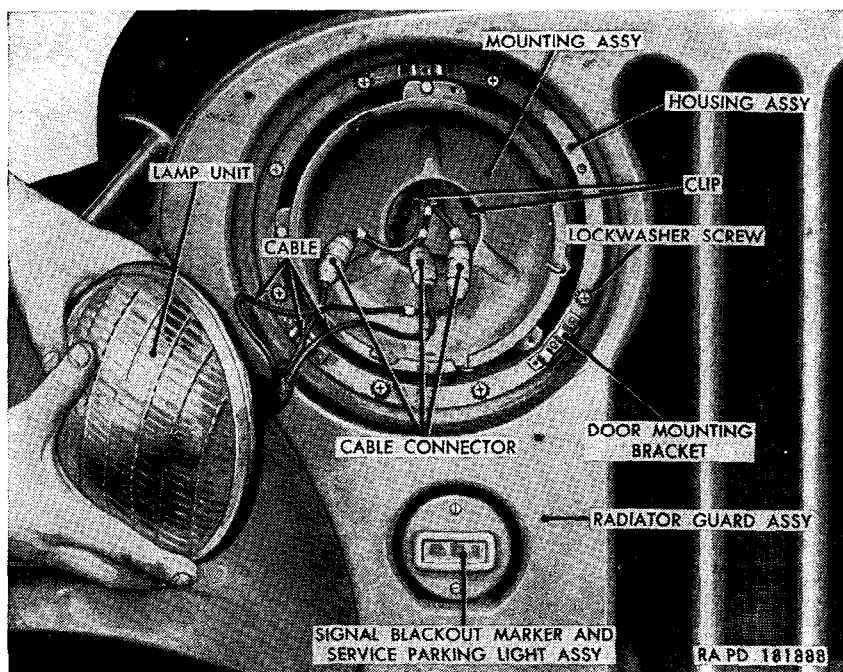
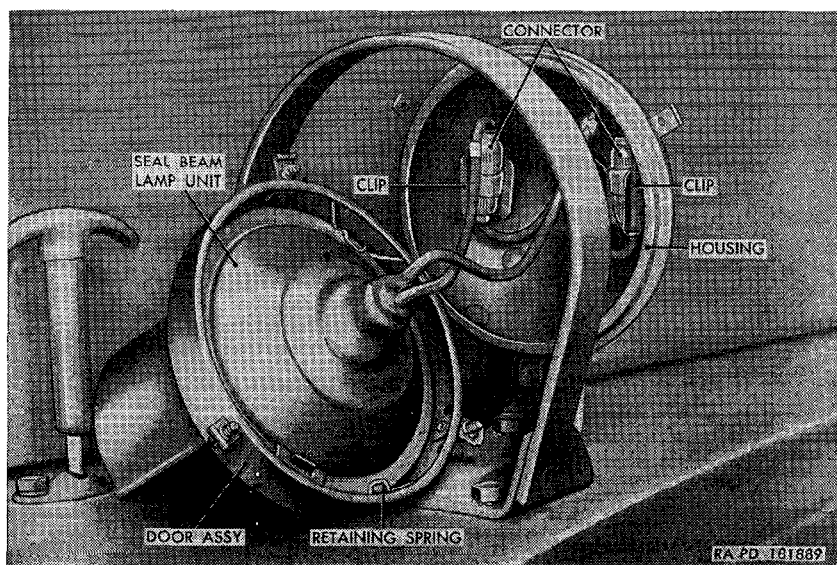
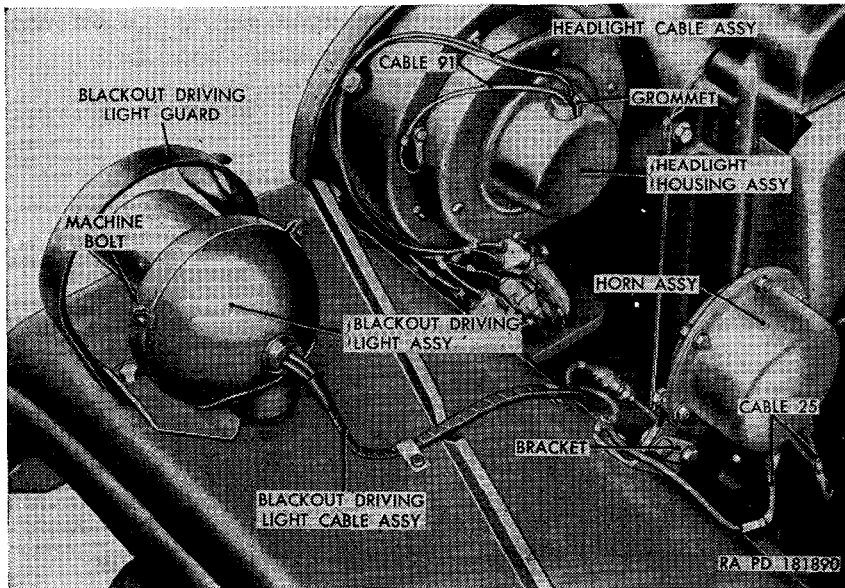
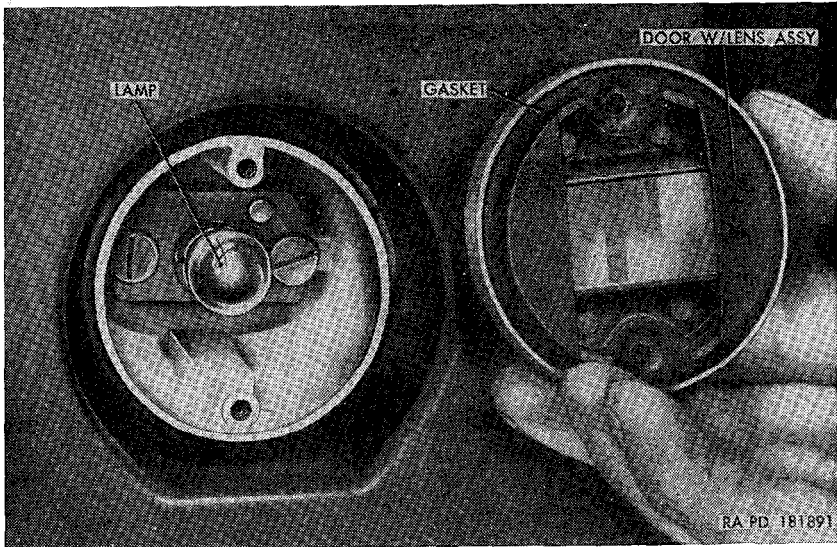

Figure 102. Removing headlight lamp-unit with cables assembly.
Figure 103. Blackout driving light-lamp-unit assembly withdrawn from housing.
Figure 104. Headlight, blackout driving light, and horn assemblies—installed.
Figure 105. Signal blackout marker and service parking light assembly—door removed.
- (c) Lift lamp-unit out of the mounting assembly and pull the cable connectors out of the clips in the housing assembly (fig. 102).
- (2) *Installation.*
- (a) Position the lamp-unit at housing assembly and connect the cable connectors (fig. 102) of cables 17, 18, and 91.
- (1) Follow procedure in b(1) above.
- (2) Remove the grommet, headlight cable assembly, and the ground cable 91 from the headlight housing assembly (fig. 104).
- (3) Remove the seven lockwasher screws from the front, and one lockwasher screw from the rear, securing the headlight housing assembly and the ground cable 91, to the radiator guard assembly, and remove the headlight housing assembly with the lamp-unit mounting assembly (fig. 102) and the headlight assembly mounting pad from the vehicle.
- (1) Position the mounting pad on the rear of the housing assembly and align pad mounting holes with housing mounting holes.
- (2) Position the housing assembly and mounting pad in radiator guard assembly (fig. 102) and align housing and pad mounting holes with radiator guard mounting holes. Secure housing and pad to guard with seven No. 10 x 1/2 lockwasher screws from the front. Position the cable 91 (fig. 104) on the guard assembly at the rear and install a No. 10 x 1/2 lockwasher screw.
- (3) Insert headlight cable assembly and cable 91 through the hole in the top of the headlight housing assembly and press grommet into hole. Pull cables to front of housing far enough to connect lamp-unit.
- (4) Follow procedure in *b*(2) above.
- (a) Loosen the three door assembly bolts and pull the door and lamp-unit with cables free from the housing (fig. 103).
- (c) Remove the three lamp-unit retaining springs (fig. 103) from the door, and remove the lamp-unit.
- #### (2) *Installation.*
- (c) Position the door and lamp unit on the housing and align the door bolts (fig. 104) with the housing mounting holes. Start the bolts into the mounting holes and tighten equally.
- (1) Follow procedure in *a*(1) above.
- (2) Pull the cable assembly and the grommet out of the housing.
- (3) Remove the nut, lockwasher, and washer securing the blackout driving light assembly to the blackout driving light guard, and remove the light from the vehicle.
- (1) Remove the two bolts securing the door with lens assembly of the signal blackout marker and service parking light (fig. 102) and remove the door and the door gasket (fig. 105).
- (2) Reach into light assembly and turn lamp counterclockwise and remove lamp.
- (3) Insert new lamp into lamp socket and turn clockwise to lock lamp in position.
- (4) Position door with lens assembly and door gasket on signal blackout marker and service parking light assembly and secure door to light with two No. 8 x 1/2 bolts.